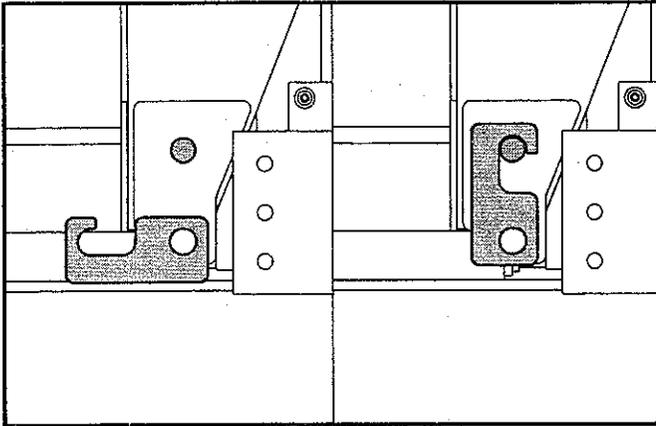

Figure 7 – Platform Lock Operation
3. Locate the two (2) adjustable leveling feet at the rear of the frame. If required, adjust each leveler downward until the leveling foot contacts the pallet surface. Further adjustments will be required later during the installation process.
4. Engage the platform lock on each side of the platform. As detailed in Figure 7, rotate each lock to the vertical position. Ensure both locks completely engage the protruding pins.
10. Disengage both platform locks. As detailed in Figure 7, rotate each lock to the horizontal position.